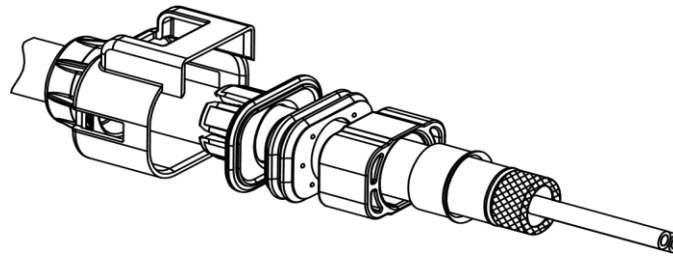

Figure 6
- 3.6.4.** Fold the braided cable shield back over the inner ferrule and trim as shown in Figure 6. Remove filler and separator (if present). Shield braid has to be fully pulled over inner ferrule. Max allowed residue length of shield braid overlapping inner ferrule is 3mm.